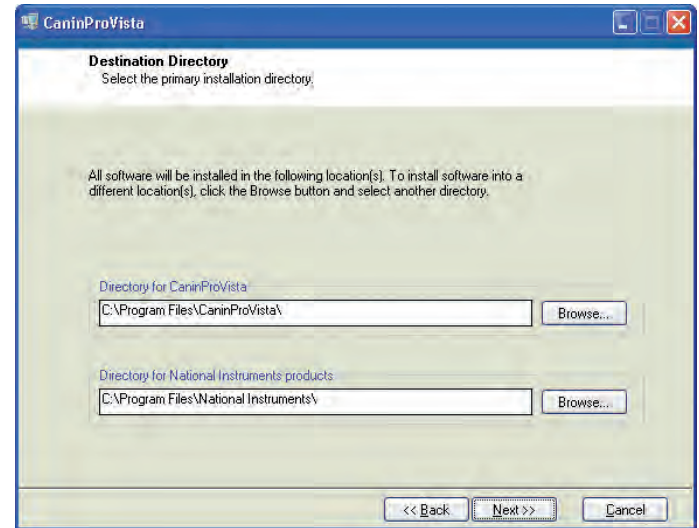

Fig.2 Setup: Destination Directory
- When the window in Fig.2 appears, select the appropriate directories.